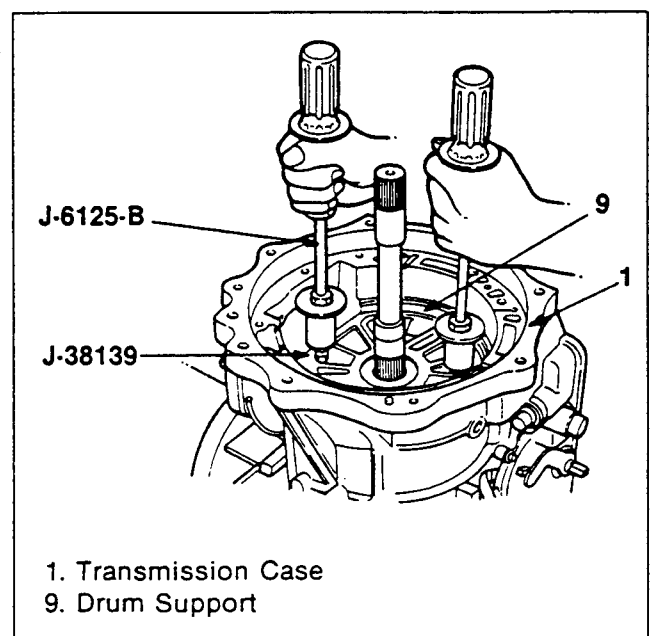

Figure 273. Drum Support Installation
- 4. Apply special grease (included in the repair kit) to the outer surface of the drum support and inner surface of the case. Install the drum support with two slide hammers and adapter (special tool) with the input shaft as a guide (figure 273).